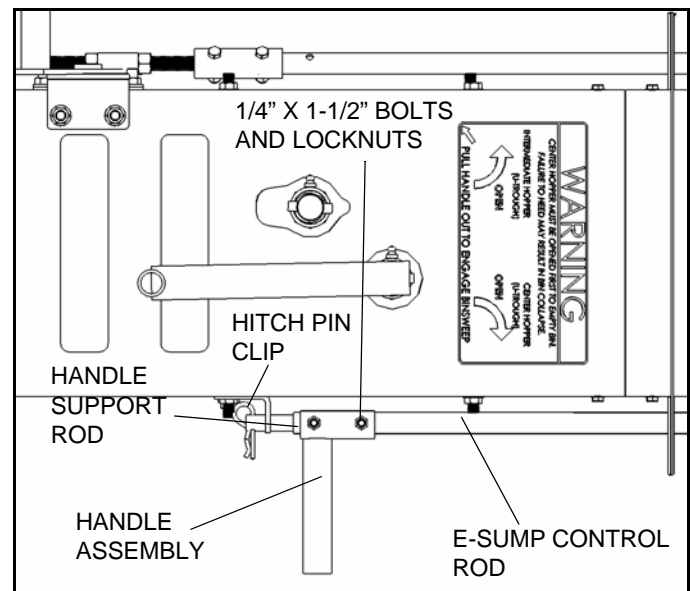

Figure 4.11
7. Slide the handle assembly through the handle support rod and secure with hitch pin clip. Couple the handle support rod to E-Sump control rod using two 1/4" x 1-1/2" bolts and locknuts provided (Figure 4.11).